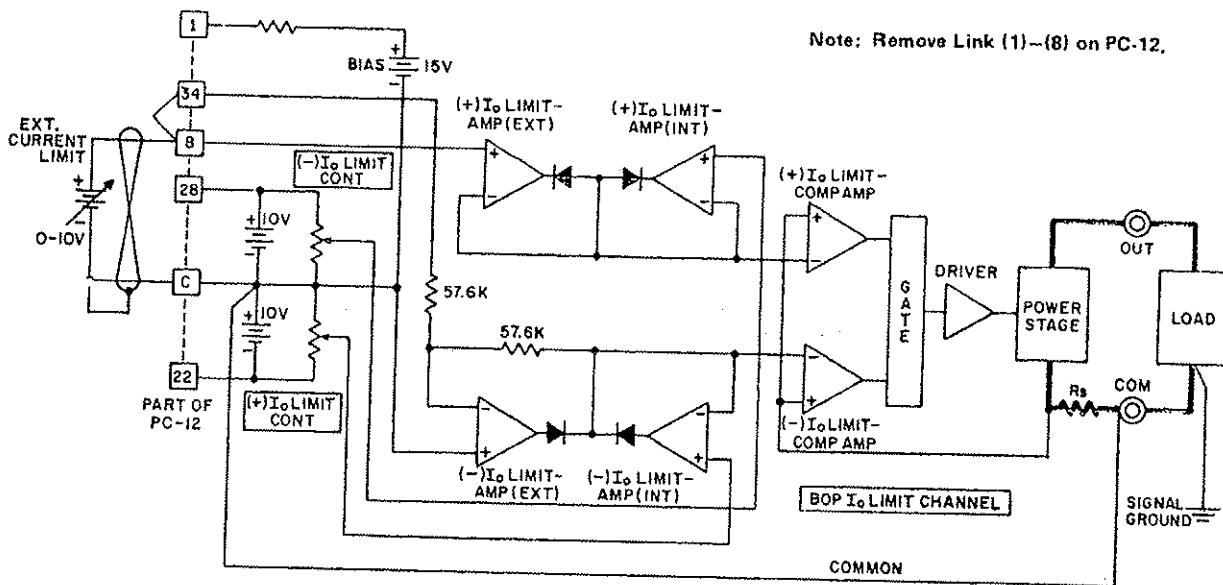
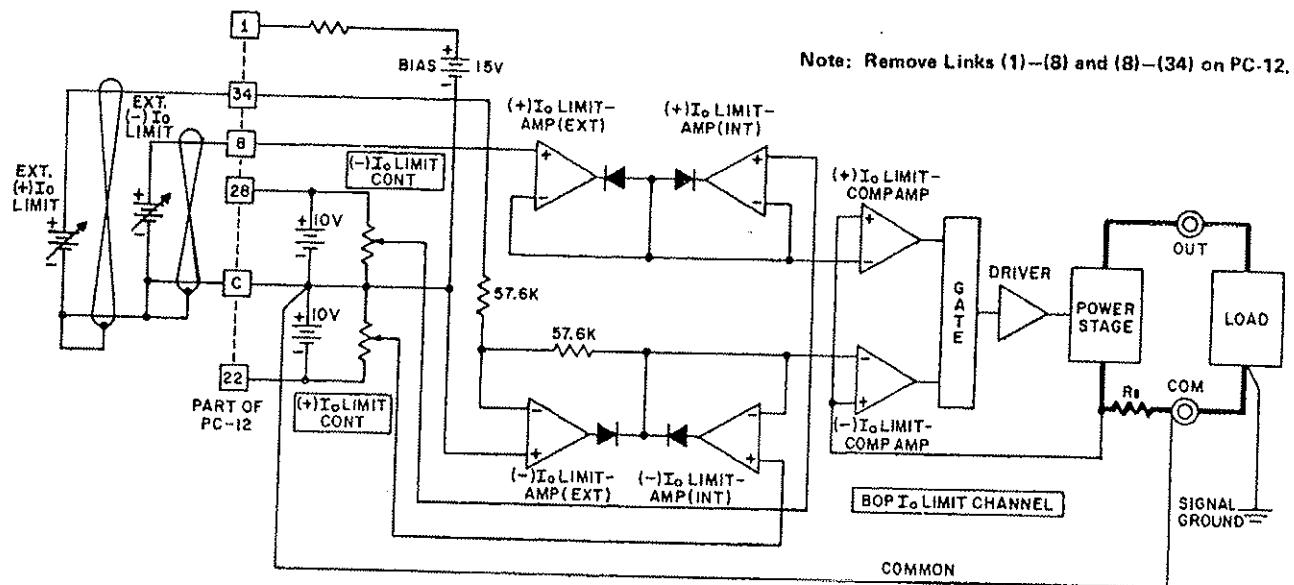

FIG. 3-21 SYMMETRICAL REMOTE CONTROL OF THE BOP CURRENT LIMITS
FIG. 3-22 INDEPENDENT REMOTE CONTROL OF THE BOP $(+)$ I_o AND $(-)$ I_o LIMITS
- 3-33 In the external control mode, the $\pm I_o$ LIMIT AMPLIFIERS (EXT) are disconnected from the 15V BIAS source (jumper 1-8 removed) and external 0-10V control signal is applied to terminals 8 and 34, with reference to COMMON. This control signal will program both, the negative as well as the positive current limit simultaneously and symmetrically over the BOP output current range (See FIG. 3-21). If individual control of the \pm current limits is desired, the jumper 8-34 must be removed and separate control sources must be connected, 0-10 volts to pin 8 for the (+) I_o limit, and 0-10 volts to pin 34 for the (-) I_o limit, both with reference to COMMON (See Fig. 3-22).